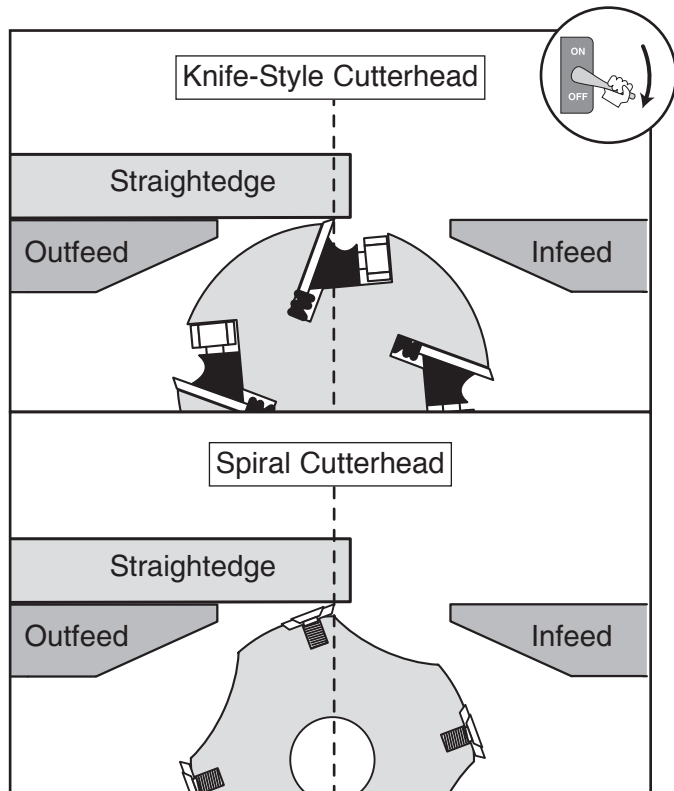

Figure 23. Cutter edge at top-dead-center.
- Place the straightedge on the center of the outfeed table and over the cutterhead, then use the cutterhead pulley to rotate the cutterhead until the cutter edge is at the top-dead-center, as shown in **Figure 23**.